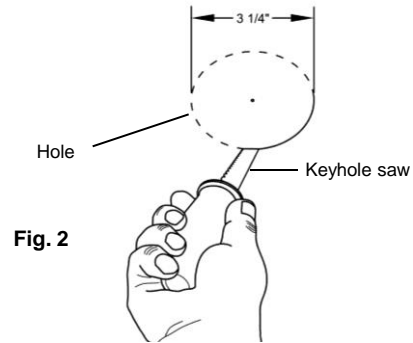

Fig. 2
1. Cut a 3 1/4” (8,3 cm) hole into the ceiling after choosing the appropriate location. A template is provided to assist in making the hole. (Fig. 2)